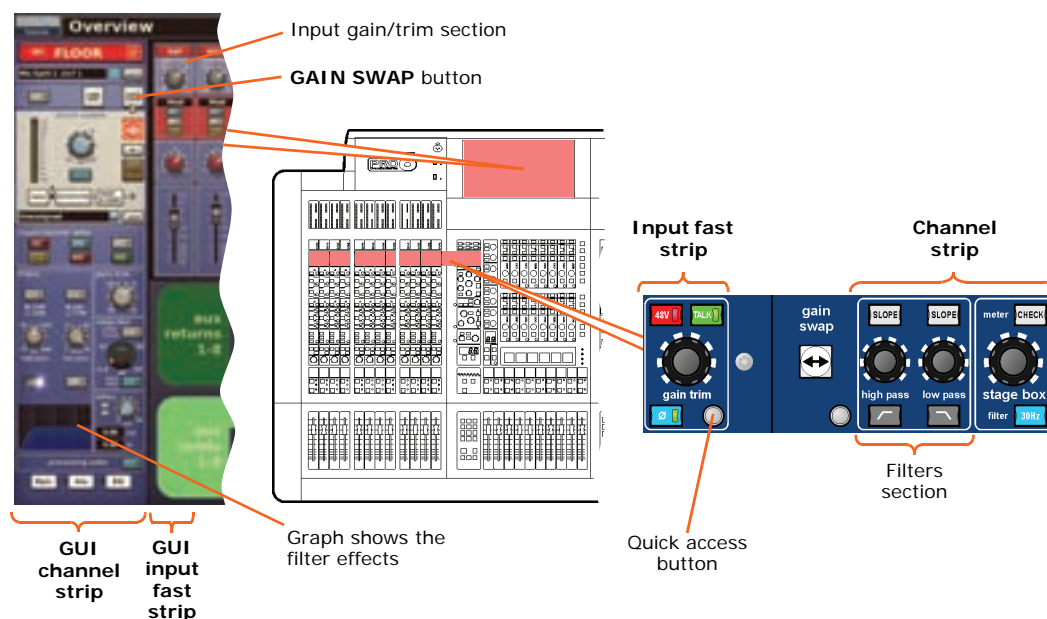

Figure 11: Gain and filter sections of the input strips
- 1 In the **gain trim** section of an input fast strip, press the quick access button (see Figure 11 “Gain and filter sections of the input strips” on page 79). This selects the input channel and assigns its configuration processing area to GUI channel strip, which contains the **GAIN SWAP** button.
- 1 In the **gain trim** section of an input fast strip (see Figure 11 “Gain and filter sections of the input strips” on page 79), press the quick access button. This selects the input channel and assigns its configuration processing area to GUI channel strip, which contains the **filters** section.